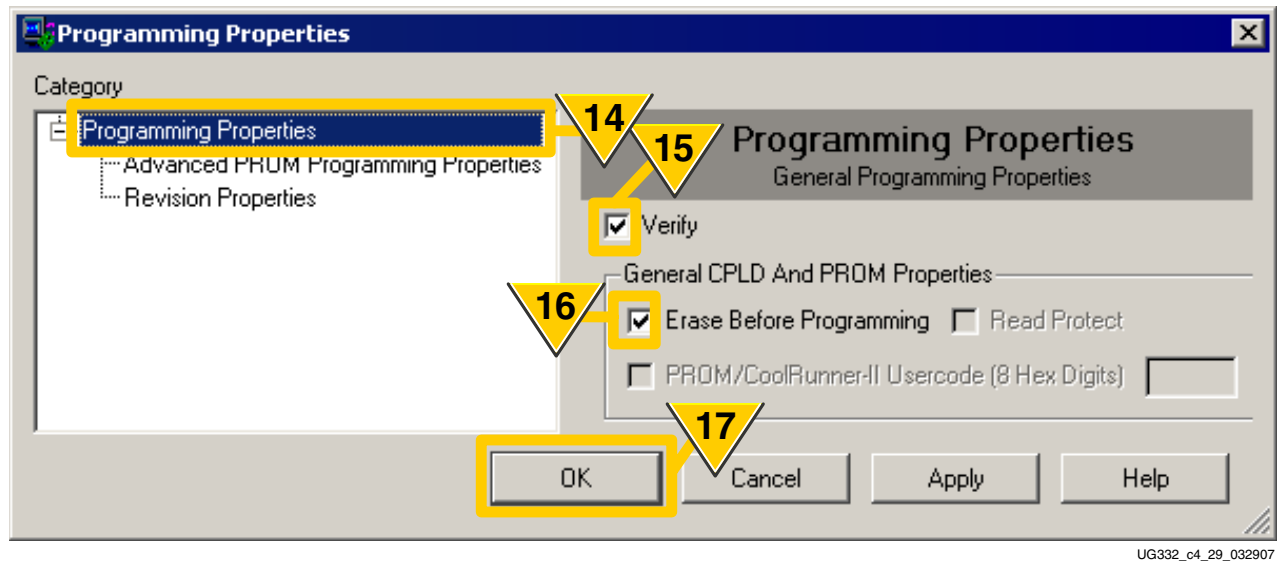

Figure 4-28: SPI PROM Programming Options
14. Click the **Programming Properties** option under **Category**, as shown in Figure 4-28.
18. The iMPACT software indicates successful programming, as shown in Figure 4-28. The FPGA is configured with the new programming file.